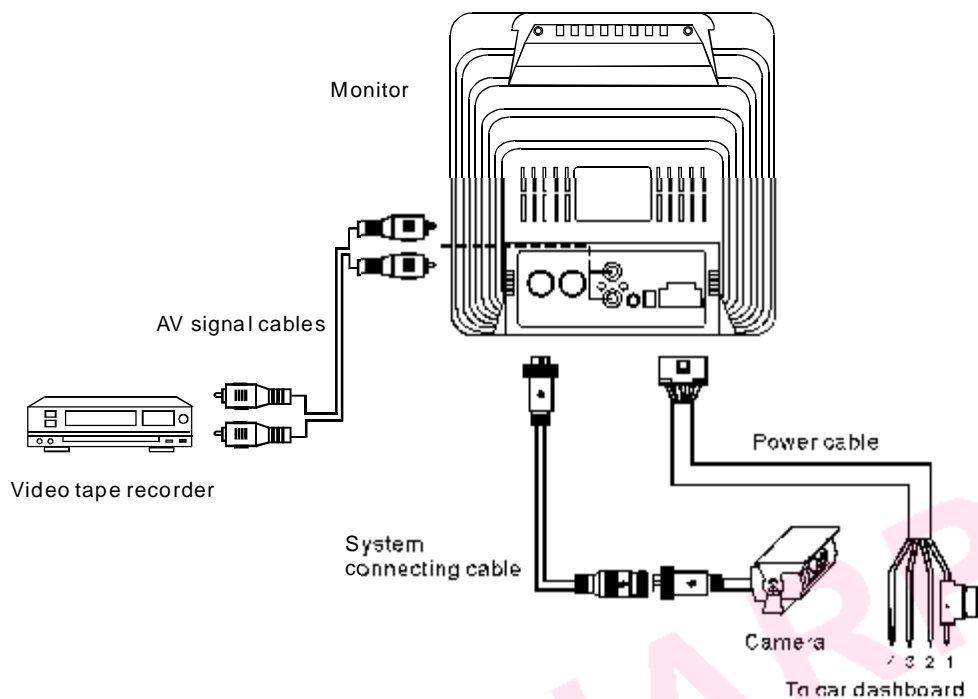

Fig 4 System connection
6. See Fig.4, Connect one end of the power cable(wire) to the right position on the dashboard
7. See Fig.4, connect the monitor and the camera with the system connecting cable. You can link the monitor with at most 2 channels of cameras and 1 channel of video/audio output (AV signal cable can be selective purchase)